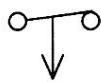

Figure 7-2 Contact symbol for question 3.
3. The relay contact drawn in Figure 7-2 is designed to operate so that 3. _____